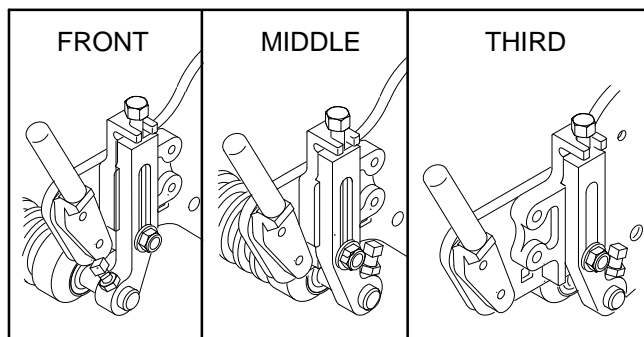

Figure 16
**Note:** The front roller can be put in three different positions depending on the application and needs of the user (Fig. 16).